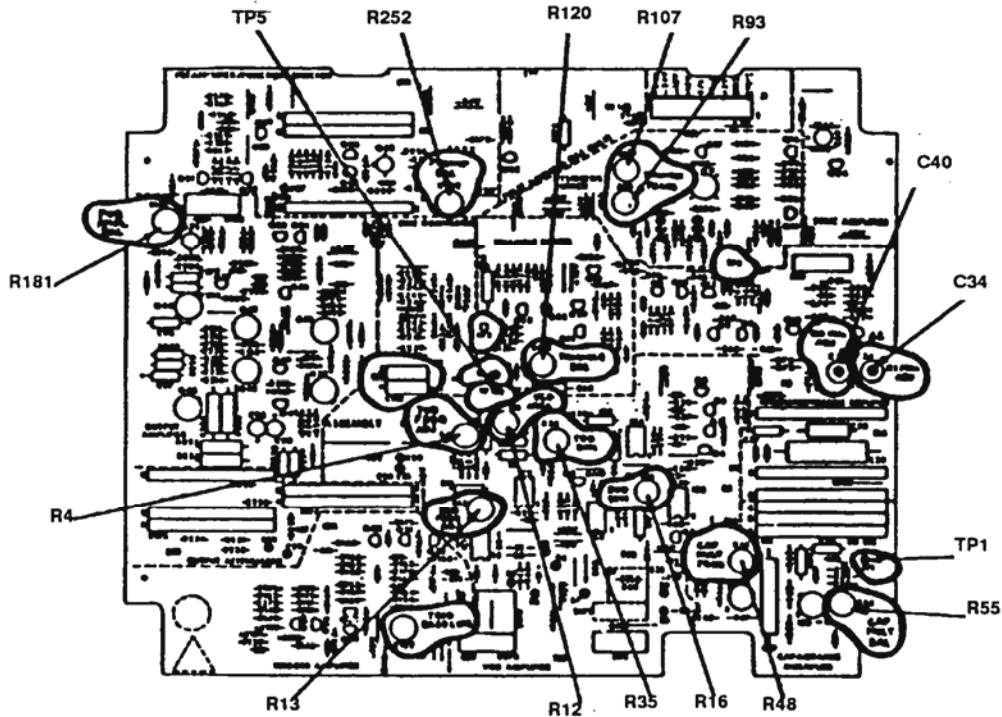

Figure 2. Test instrument - bottom view.
- (1) Adjust R12 (fig. 2) for minimum shift.
- (2) Adjust R13 (fig. 2) for greater than 5 ms.
- (3) Adjust R16 (fig. 2) for best symmetry ± 0.5 percent. (R)
- (4) Repeat **a** (6) and (7) above due to interaction.
- (5) Adjust R35 (fig. 2) for best symmetry ± 0.5 percent. (R)
- (1) Repeat **a** (2) above.
- (2) Connect oscilloscope to audio analyzer output. Sync oscilloscope with **SYNC OUT** using 50 Ω feedthrough termination.
- (3) Adjust R120 (fig. 2) for symmetrical wave form as indicated on oscilloscope.
- (4) Slightly adjust R93 and R107 (fig. 2) for minimum distortion.
- (5) If R93 or R107 (fig. 2) is adjusted near a stop, recenter both adjustments and repeat paragraph **9** above.
- (1) Set **FREQ/PERIOD MULTI (Hz/s)** switch to **1 K** and frequency dial to **2.0**.
- (2) Adjust R4 (fig. 2) until frequency counter indicates between 1990 and 2010 Hz. (R)
- (3) Set **FREQ/PERIOD MULTI (Hz/s)** switch to **10**.
- (4) Adjust R48 (fig. 2) until frequency counter indicates between 19.9 and 20.1 Hz. (R)
- (5) Set **FREQ/PERIOD MULTI (Hz/s)** switch to **10M**.
- (6) Adjust C40 (fig. 2) for best intolerance condition while varying frequency dial over entire range. (R)
- (7) Set **FREQ/PERIOD MULTI (Hz/s)** switch to **1 M**.
- (8) Adjust C34 (fig. 2) for best intolerance condition while varying frequency dial over entire range. (R)